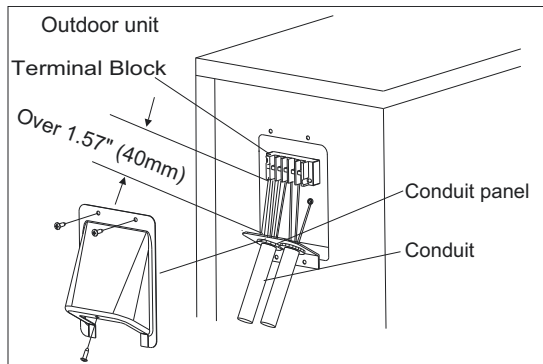

Fig. 16 — Field Wiring
5. Connect the conduit to the conduit panel (see Fig. 16).